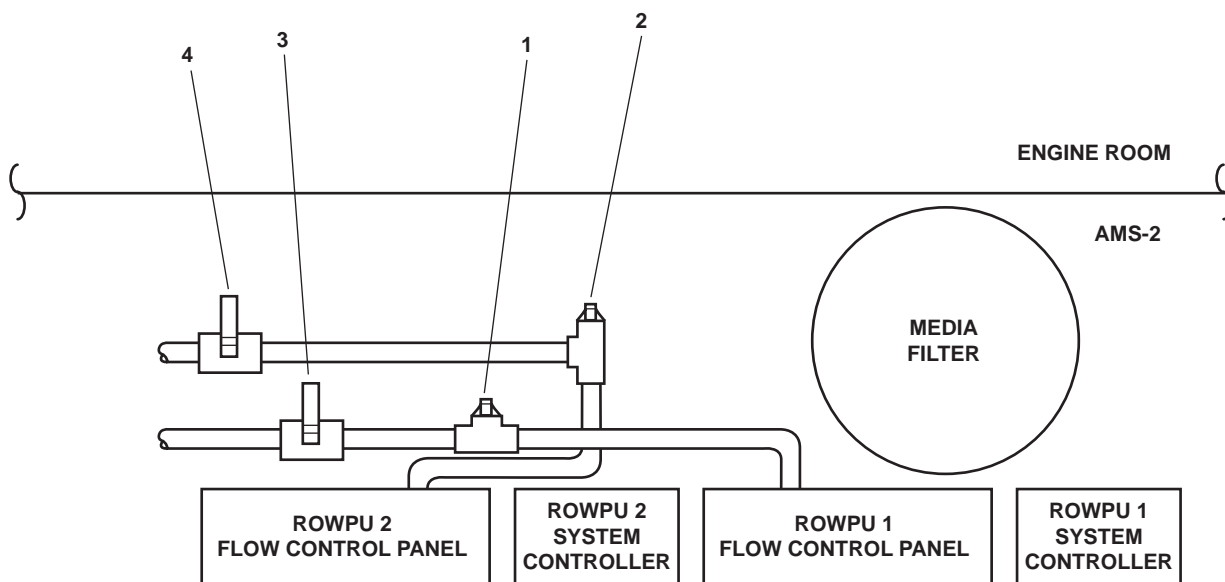

Figure 8. Cleaning Solution Valves and Fittings
7. Remove the two plugs (figure 8, items 1 and 2) located upstream of valves RO-V-1-2 (figure 8, item 3) and RO-V-2-2 (figure 8, item 4), and attach an 8-foot (2.4 meter) cleaning hose to each exposed connection.
11. CLOSE valves RO-V-1-2 (figure 8, item 3) and RO-V-2-2 (figure 8, item 4).
20. Place antiseizing tape on the male pipe threads of the two plugs (figure 8, item 1 and 2), and install the plugs in the cleaning supply piping.
22. OPEN valves RO-V-1-2 (figure 8, item 3), and RO-V-2-2 (figure 8, item 4).